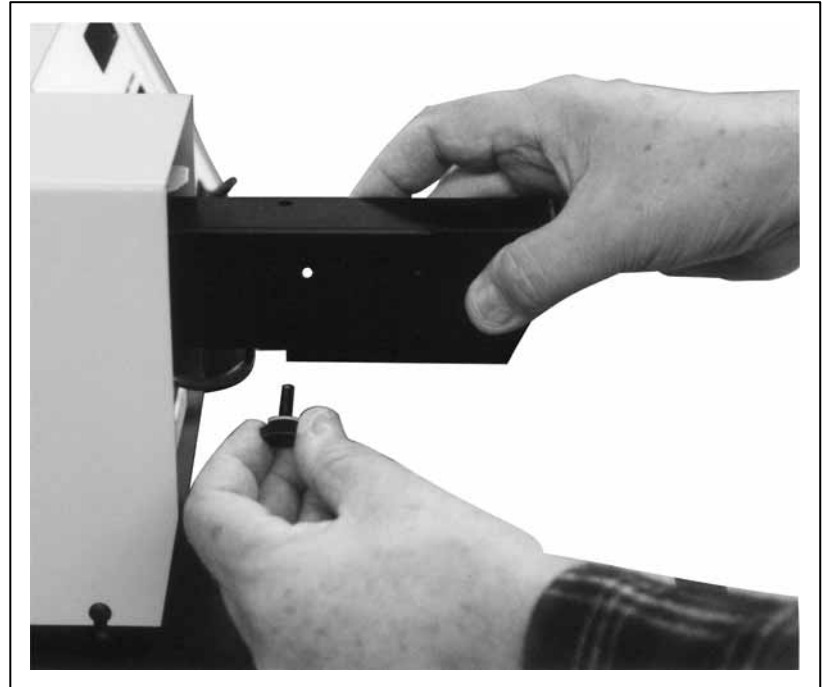

Figure 2-2. Attaching Beam Module to the Beam Arm
- 5 Insert the three-pin black connector in its receptacle as illustrated in figure 2-2.